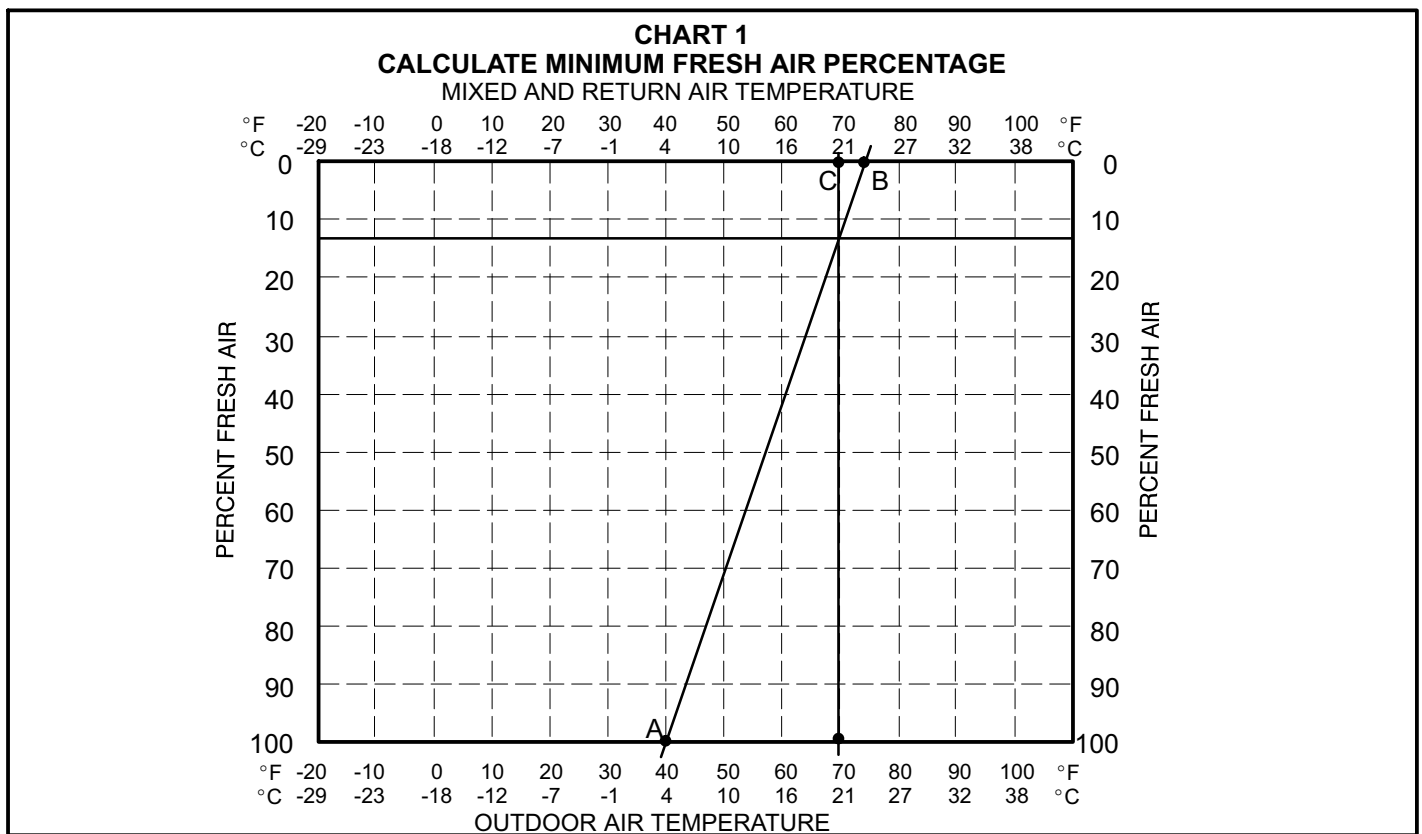

FIGURE 24
- 4- Measure return air temperature. Mark that point on the top line of chart 1 figure 24 and label the point "B" (74°F, 23°C shown).
4. Measure outdoor air temperature. Mark the point on the bottom line of chart 1 figure 24 and label the point "A" (40°F, 4°C shown).
8. Measure outdoor air temperature. Mark the point on the bottom line of chart 1 figure 24 and label the point "A" (40°F, 4°C shown).